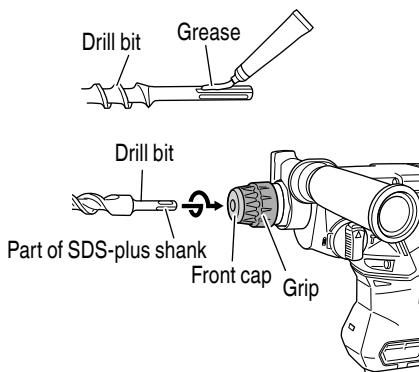

Fig. 11
3. Mounting the drill bit (Fig. 11, 12)
- (1) Clean, then smear the shank portion of the drill bit with the grease or machine oil.
- (2) Insert the drill bit in a twisting manner into the tool holder until it latches itself. (Fig. 11)